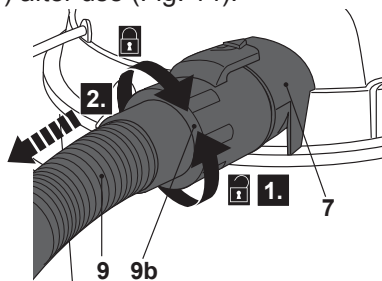

Fig. 14
- > Rotate the hose connector (9b) anticlockwise and pull it from the air outlet (7) to disconnect the hose (9) after use (Fig. 14).